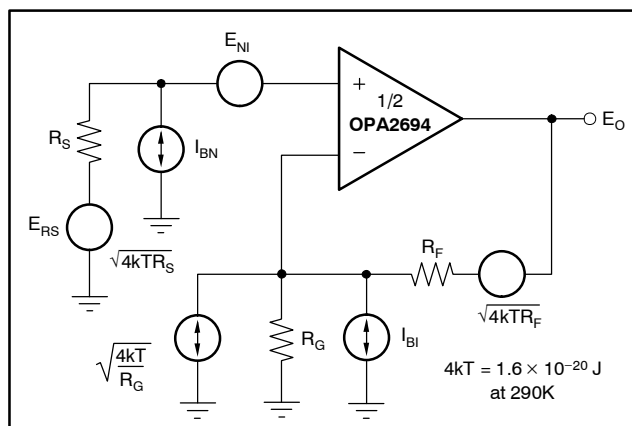

Figure 12. Op Amp Noise Analysis Model
significantly lower than earlier solutions, while the input voltage noise (2.1nV/ $\sqrt{Hz}$) is lower than most unity-gain stable, wideband, voltage-feedback op amps. This low input voltage noise was achieved at the price of higher noninverting input current noise (22pA/ $\sqrt{Hz}$). As long as the AC source impedance looking out of the noninverting node is less than 100 Ω , this current noise will not contribute significantly to the total output noise. The op amp input voltage noise and the two input current noise terms combine to give low output noise under a wide variety of operating conditions. Figure 12 shows the op amp noise analysis model with all the noise terms included. In this model, all noise terms are taken to be noise voltage or current density terms in either nV/ $\sqrt{Hz}$ or pA/ $\sqrt{Hz}$.
The total output spot noise voltage can be computed as the square root of the sum of all squared output noise voltage contributors. Equation (5) shows the general form for the output noise voltage using the terms shown in Figure 12.